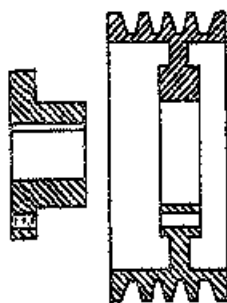

Fig. 1
3. Select **standard** or **reverse** mounting assembly. See figures 1 and 2.